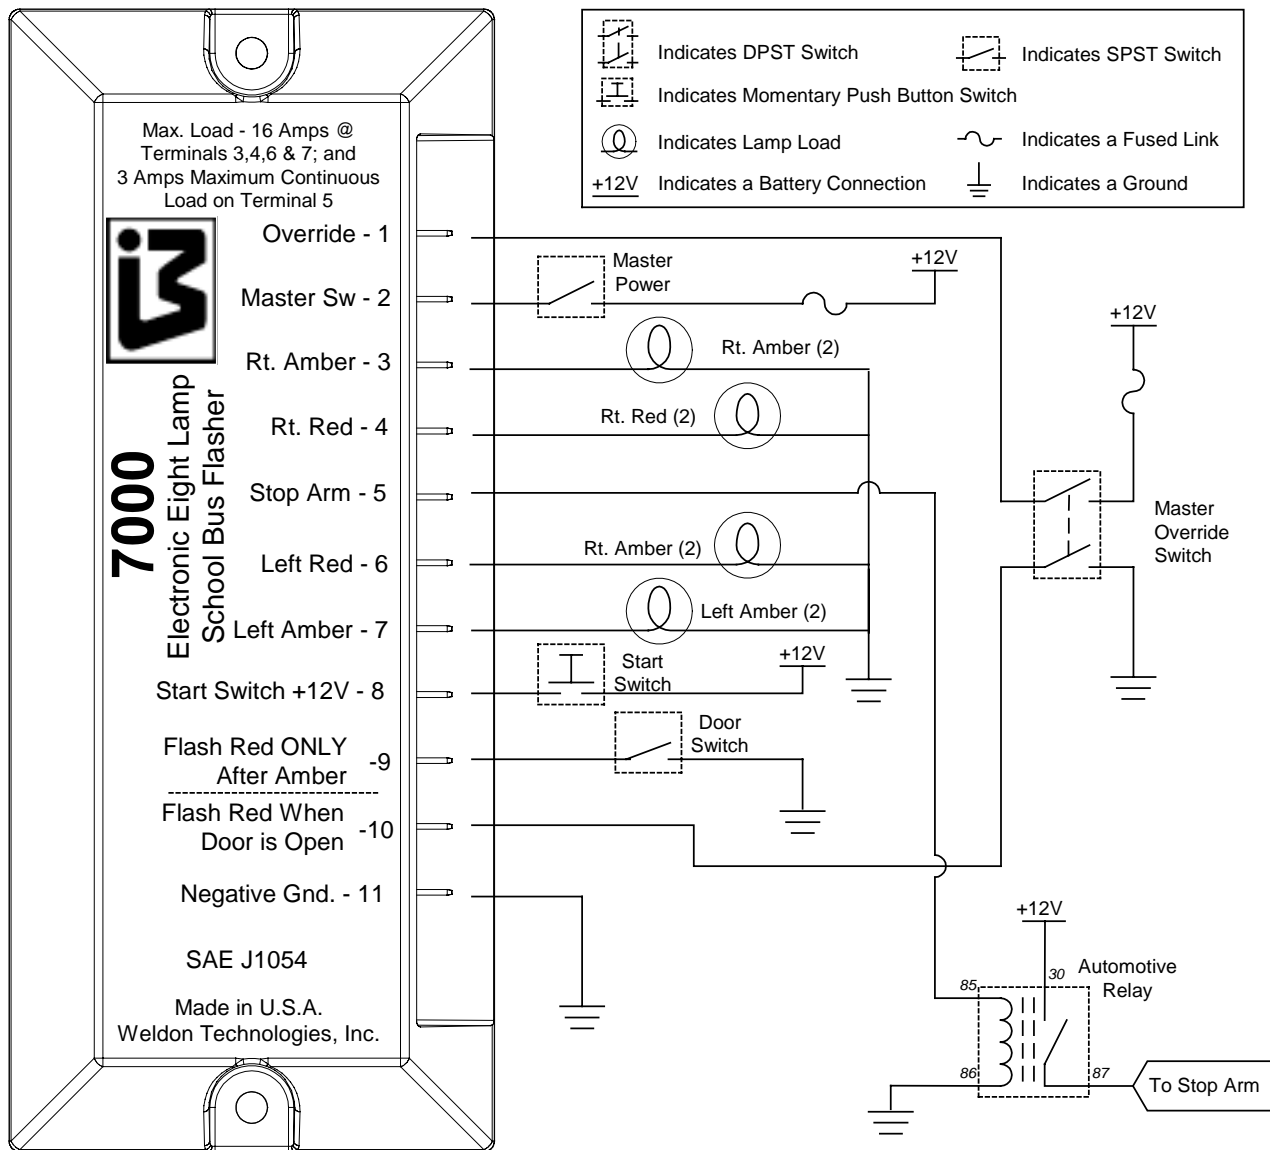

Figure 2 – Eight-Lamp Sequential Flasher Wiring Diagram with Master Override Switch
3. Wire the Flasher – Harnessing for the warning lamps, stop arm, and other devices should be run per the circuit diagrams shown in Figures 2 or 3. Connect the harness to the flasher in order from Pin 11 to Pin 1 (Ground first). The terminals are to be wired per their individual requirements discussed in the next section. The wire harness connected to the flasher should be secured to prevent fracture of the wires or terminals from road shock and vibration. The harness should be supported with strapping secured to the vehicle. **Do not use the flasher's connections to support the weight of the harness.** Power to the flasher must be fused. The fuse should be as close to the battery side of the power circuit as possible. It is not necessary to fuse the lamp output leads from the flasher to the lamps, as the flasher will protect from shorts or over-current conditions on the outputs. The fuse must be sized appropriately such that the fuse trips before damage can occur to the wire harness. Keep in mind that the inrush current on a cold bulb filament can be 10X its normal operating current. The wiring gauge and fusing must be sized to protect the system and be large enough to prevent false tripping due to normally occurring inrush currents or voltage variations. **The flasher must be grounded.** The flasher will not be capable of reliable operation without a good ground on Pin 11. **The ground wire (Pin 11) must be connected first during installation.**
2. If the RMS current draw of connected loads exceeds 3Amps or is not known, power the devices through a relay as shown in Figure 2.
A typical 8-lamp warning system installation is shown in Figure 2 below. With this setup, the flasher will alternately flash the amber lamps after the Start switch is depressed. The ambers will continue to flash until the passenger door or the master override switch is closed. Once a "door open" condition is detected, the ambers will shut down and the reds will begin to flash for as long as the "door open" condition exists. Once the door is "closed," the reds will finish cycling and the flasher will await the next operational condition.
The Stop Arm "Bounces" In and Out When the Reds are Active	<p>If the stop arm "bounces," it is because one of the red channels has shut down or failed. To test, disconnect the leads from Pins 4 & 6 and recycle the flasher power. Test operation with Pins 4 & 6 disconnected – the stop arm should operate correctly. Next, disconnect Pin 5 and reconnect Pins 4 & 6. The stop arm will return, and the red lamps will flash. If the red lamps on one side of the bus are not flashing, then that circuit has a short or an over-current condition (too large of a current load). Check for shorts or over-current with an amp meter. If both red sides are flashing properly, reconnect Pin 5. If either of the reds quits flashing, the load has exceeded the current limit on the flasher. The stop arm equipment must be run through a relay as shown in Figure 2. If both left and right reds continue to flash correctly but the arm "bounces," then the flasher has a bad diode and the flasher must be replaced.</p>